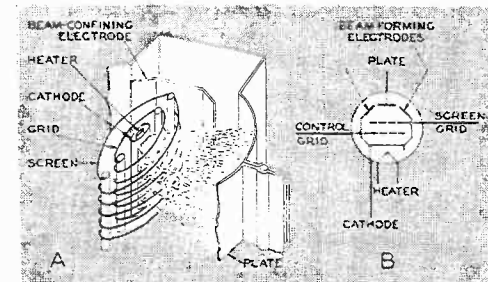

Fig. 3. A beam-power tetrode (courtesy RCA) and one of its schematic symbols.
*Construction directions.* This section of the manual contains step-by-step assembly directions. These instructions are in three parts for each stage: an inventory of parts contained in the particular bag for the stage being built; procedure for construction of that particular stage; and a checking FotoGram (Fig. 3) in two colors, so that the builder can compare the stage he has just completed with a picture showing how it should look. Note that these FotoGrams are actual photographs of a kit in the process